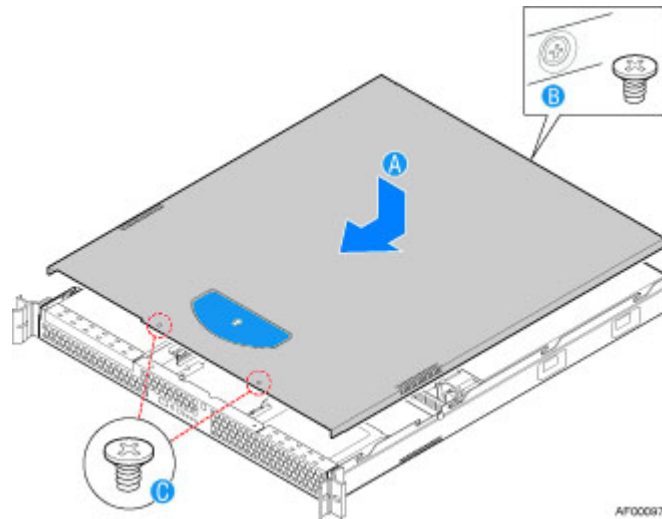

Figure 16. Installing the Server System Cover
2. Place the cover over the server system so that the side edges of the cover sit just inside the server system sidewalls. Slide the cover forward (see letter “A” in Figure 16).